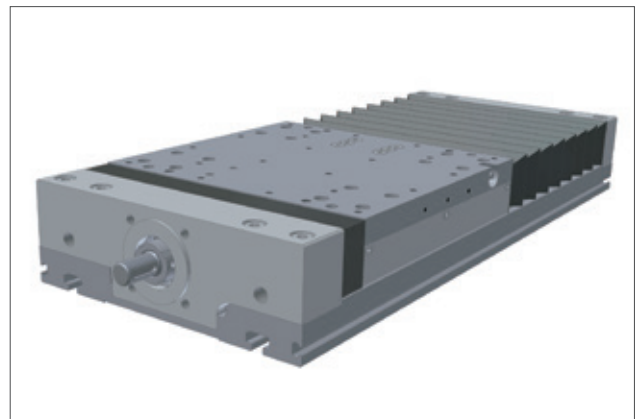

Figure 5.10 — AXLT with bellows
- Optimal protection of the inside placed guiding and drive elements as well as the inductive switches by the optional use of bellows (Figure 5.10)